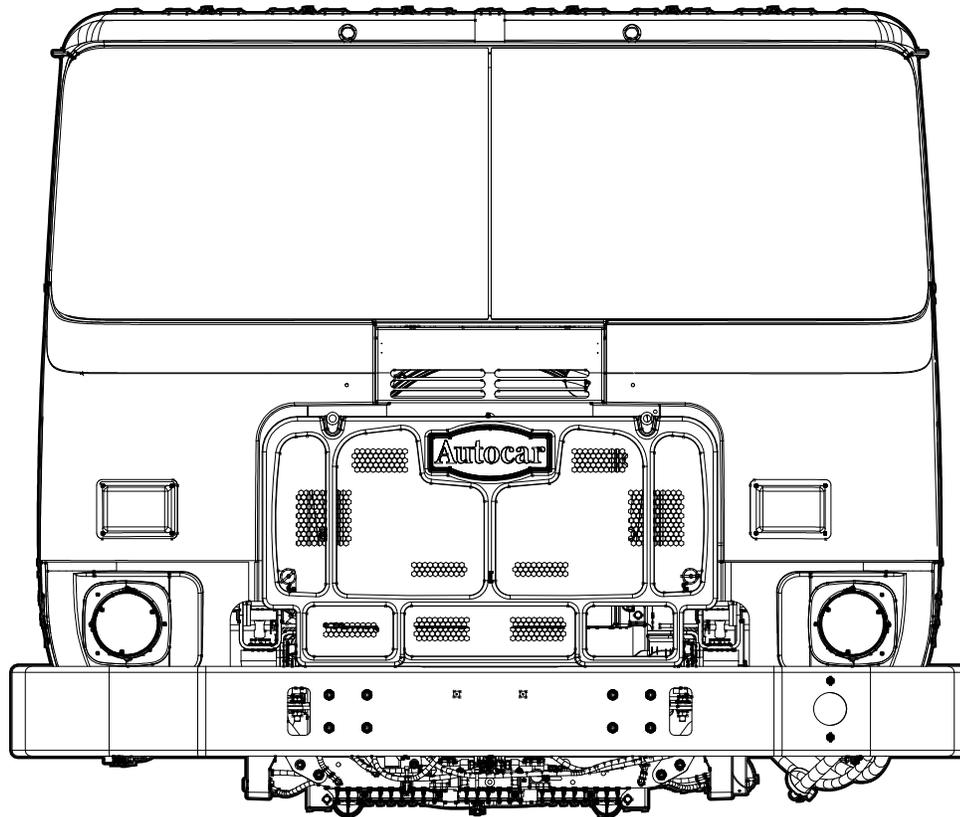

Figure 5
8. From the front of cab, locate the grill. Remove the fasteners and the grille and set aside for reinstallation (see *Figure 5*).